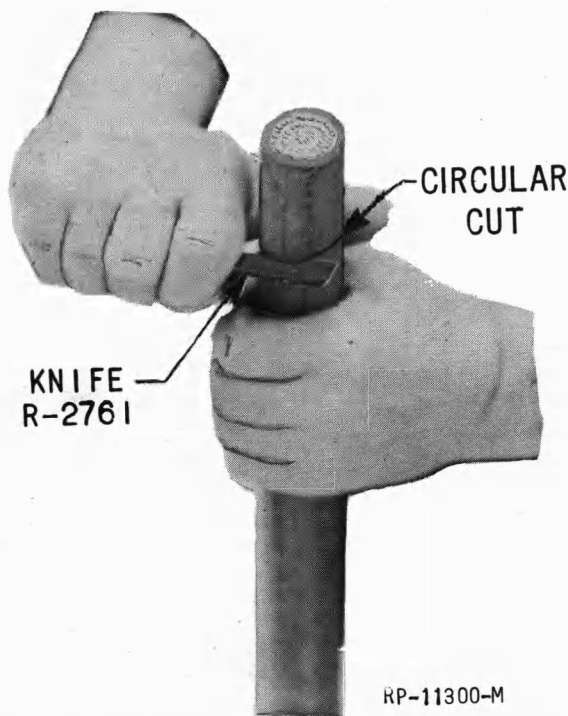
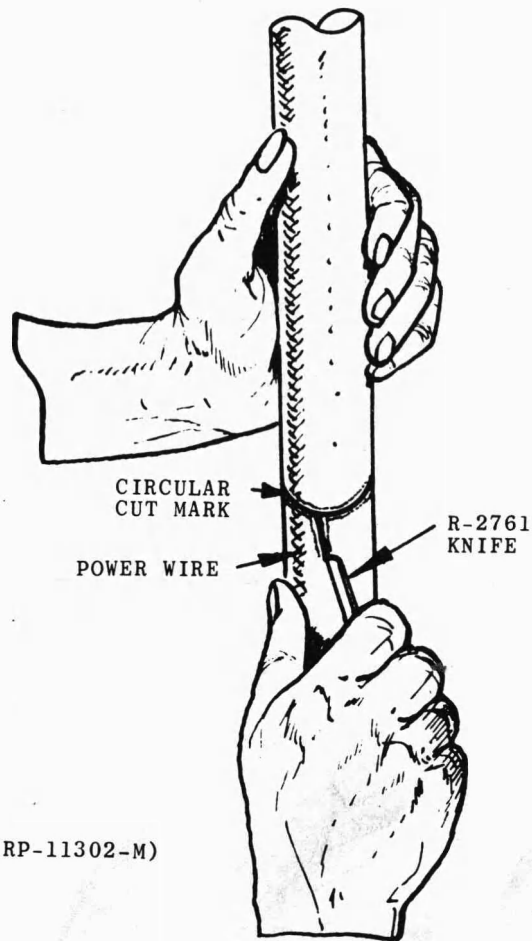

FIG. 5 CIRCULAR CUT WITH KNIFE (PAR. 4.232)
FIG. 6 LENGTHWISE CUT WITH KNIFE (PAR. 4.232)
4.232 Make a circular cut with the knife as shown in Figure 5 through all of the insulation at the place marked. Then make a second cut lengthwise from the circular cut to the end of the wire, following the twist in the strands. (See Figure 6). Two circular cuts are made for parallel and crosstap connectors in which case the insulation is cut lengthwise between the two circular cuts. Remove the insulation with the R-2120 long nose pliers. The wire should be clean, but if any particles of rubber adhere to the strands they may be removed with the knife.